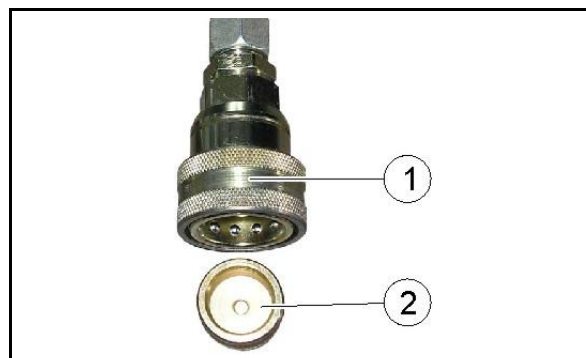

Fig. 47
2. Uncouple the hydraulic sleeve (Fig. 47/1).
3. Slip the hydraulic sleeve onto the machine's blanked-off connecting piece (Fig. 47/2).